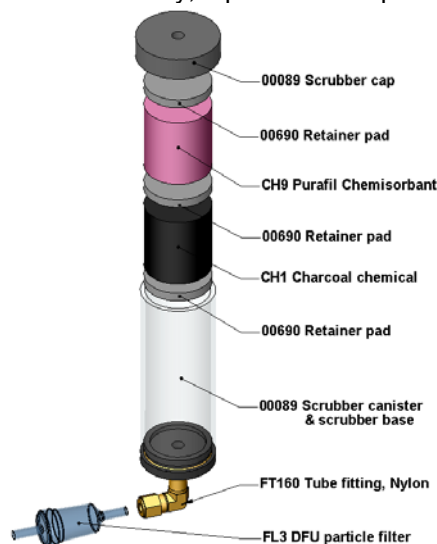

Figure 9-3: Zero Air Scrubber Assembly
1. Locate the scrubber on the outside rear panel (for location, see Scrubber Cartridge in Figure 3-2). Figure 9-3 shows the exploded scrubber assembly.
5. Refill the scrubber with charcoal at the bottom and with the Purafil® chemical at the top, and use three white retainer pads (Figure 9-3) to separate the chemicals.